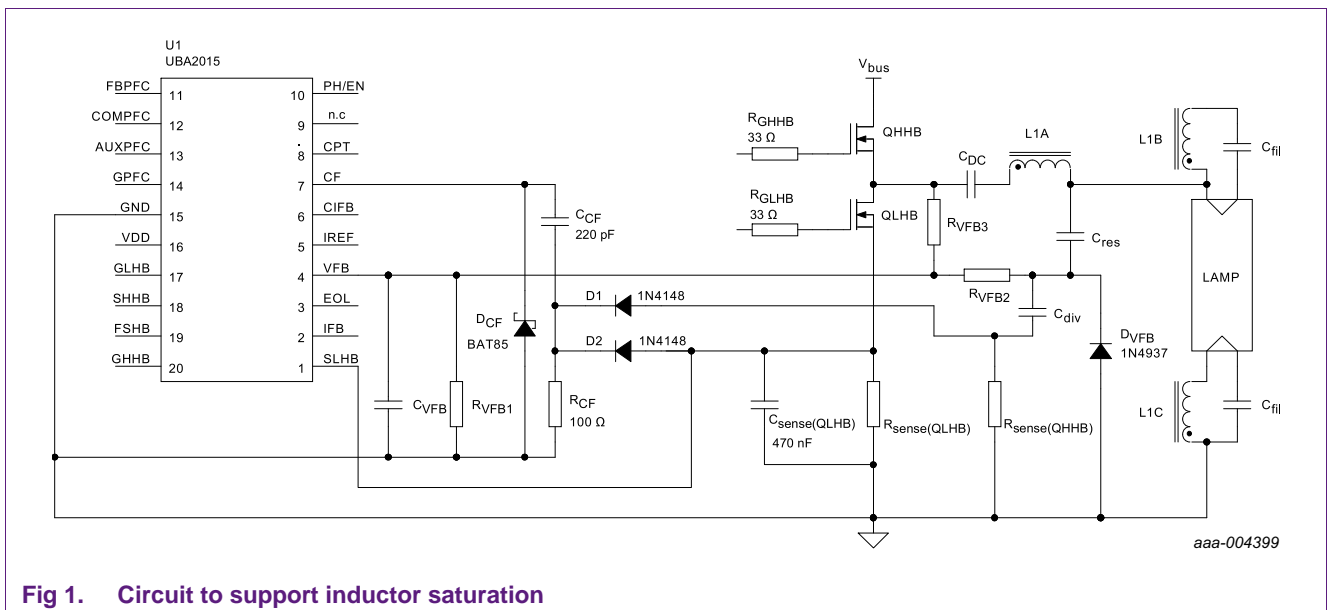

Fig 1. Circuit to support inductor saturation
**Remark:** Test only using Rsense(QLHB) for inductor saturation regulation, do not mount Rsense(QHHB), D1 or DCF. The Rsense(QLHB) value obtained is higher compared to Figure 1.